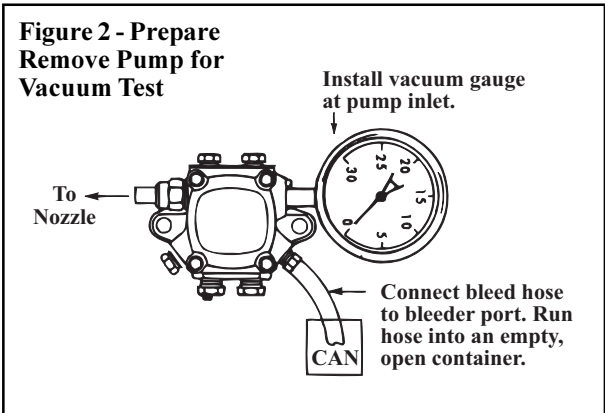

Figure 2 - Prepare Remote Pump for Vacuum Test
- (1) *Prepare Remote Pump for Vacuum Test* - Refer to Figure 2. Disconnect the supply line at the pump inlet. (If the pump has been running "dry", pour oil into the pump.) Install a **vacuum gauge** (0-30" Hg.) into the inlet port. Connect a **bleed hose** to the bleeder port. Run the hose into an **empty, open container**.